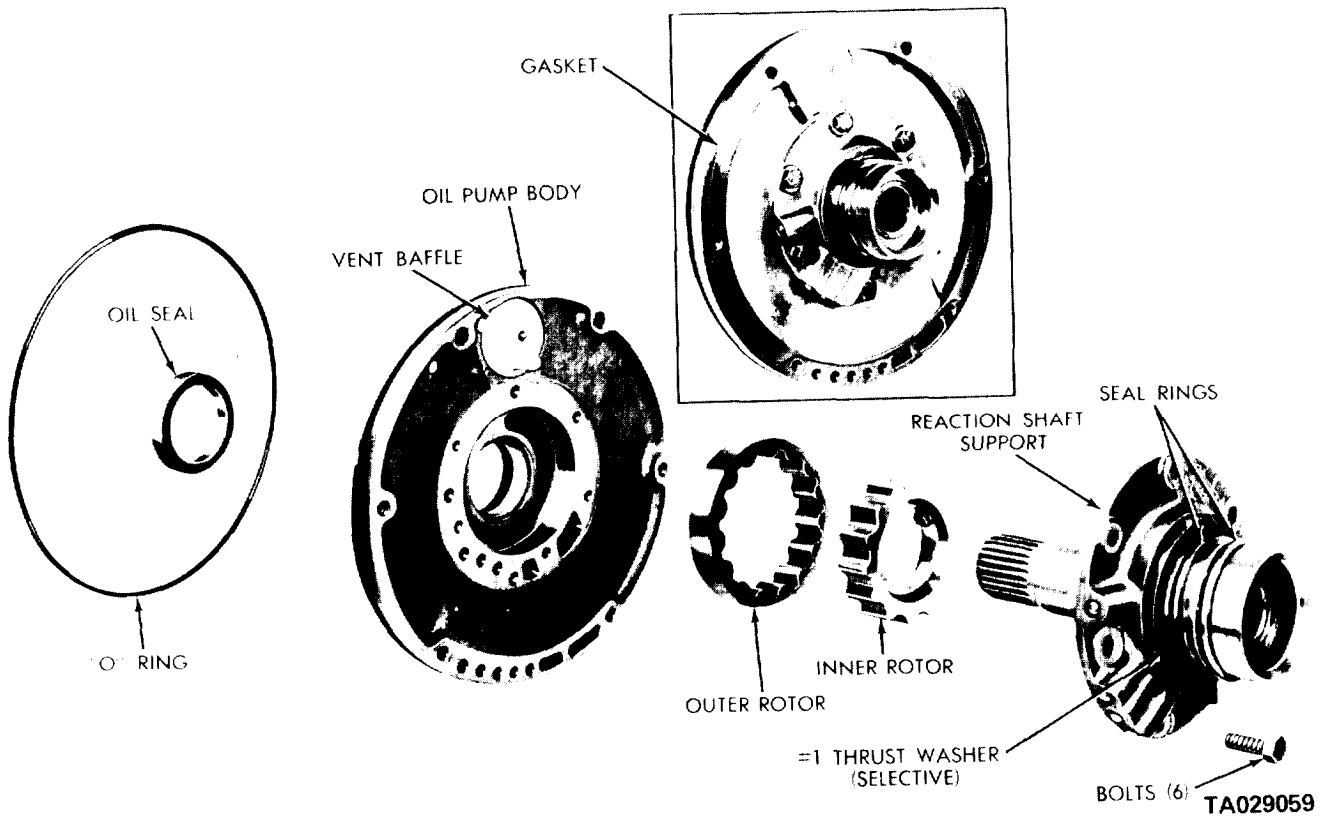

Figure 18-8. Oil Pump and Reaction Shaft Support.
a. Disassembly. Refer to figure 18-8.
(1) Remove the bolts from the rear side of the reaction shaft support and lift the reaction shaft support off the pump.
(2) Remove the rubber seal ring from the pump body flange.
(3) Drive out the oil seal with a blunt punch.
(1) Look for wear or broken locks on the interlocking steel rings mounted on the reaction shaft support (figure 18-8). Make sure they turn freely in the grooves.
(2) Inspect all machined surfaces on the pump body and reaction shaft support for nicks and burrs.
(3) Look for wear or scores on the pump body and reaction shaft support bearings.
(4) Inspect the pump rotors for scoring or pitting.
(5) Clean the rotors and install them in the pump body. Then place a straightedge across the face of the rotors and pump body. Use a feeler gage to measure the clearance between the straightedge and the rotor faces. Clearances between 0.0015 and 0.0030 inch are satisfactory.